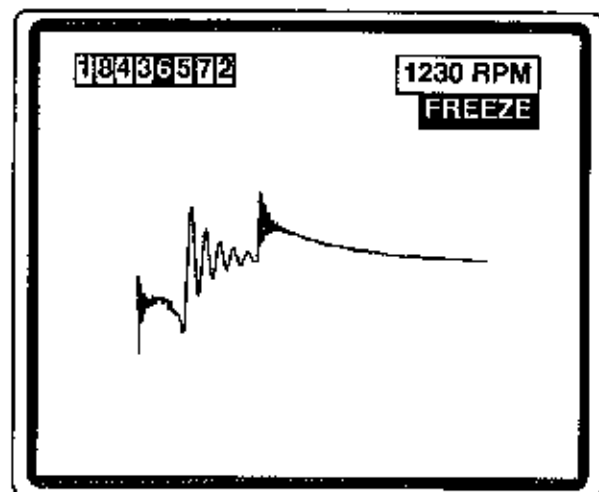

Figure 183
**Upside Down Patterns (See Figure 183)**